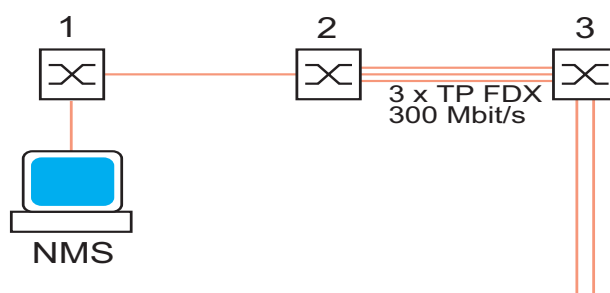

Figure 2: Example: “Defining the first device”
- ☐ In the example below (see fig. 2), you configure the link aggregation first on device 3, then on device 2. If you accidentally disconnect device 3 from the network, you can access it again by selecting “Allow static link aggregation” in the `Redundancy: Link Aggregation` dialog, or by activating this option via the CLI.